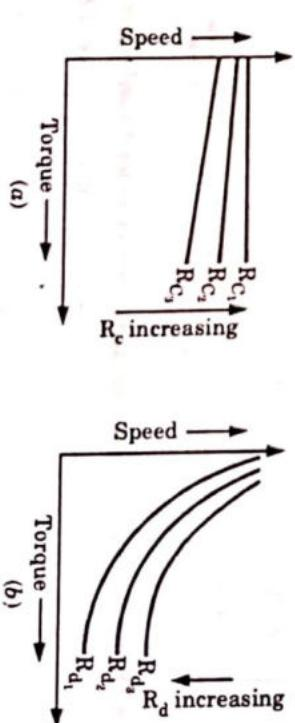

Fig. 3.11.3. Typical speed-torque curves (a) shunt motor (b) series motor.
- Fig. 3.11.3(a) and 3.11.3(b) shows the typical speed/torque curves for shunt and series motors respectively, whose speed are controlled by the variation of the field flux.